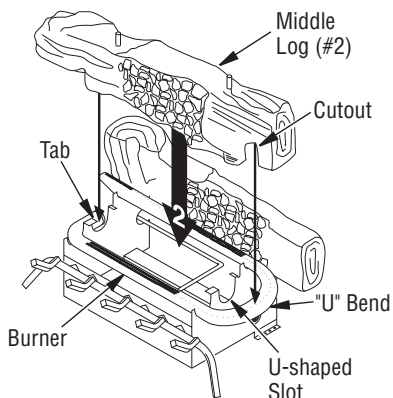

Figure 26 - Installing Middle Log (#2) (Base may vary from illustration)
2. Place base of middle log (#2) in U-shaped slots of grate base in front of back log. Cutout on right of middle log should fit over burner (see **Figure 26**). Make sure front of middle log is resting on tabs of grate base and cutout area is centered over burner "U" bend.